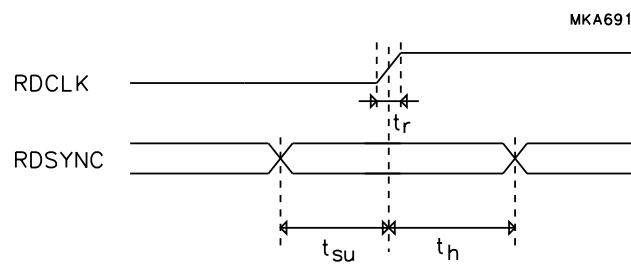
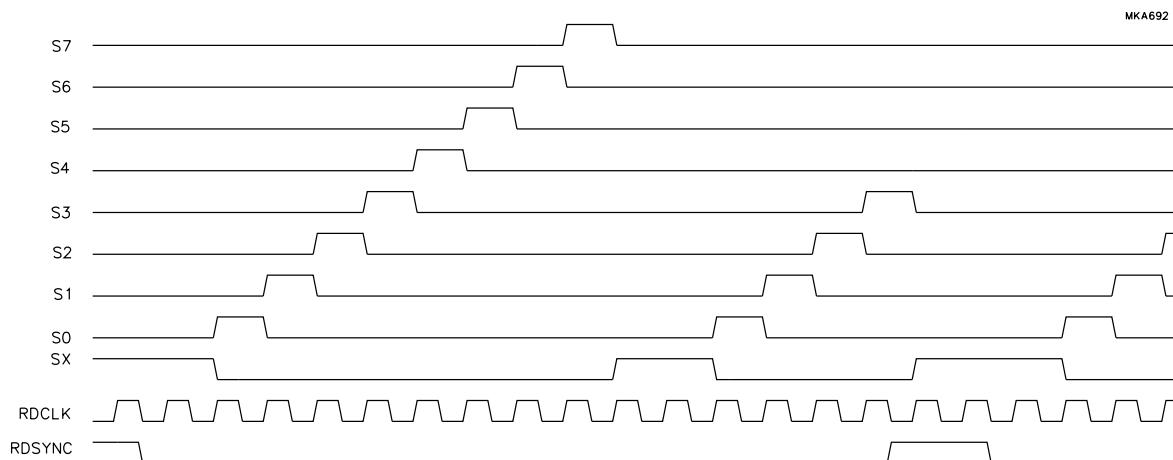

Fig.3 Timing relationship between the edges of RDCLK and RDSYNC.
Fig.4 Multiplexer timing diagram.
- Timing relationship between the edges of RDCLK and RD SYNC is illustrated in Fig.3. Figure 4 illustrates the action of the multiplexer switches.